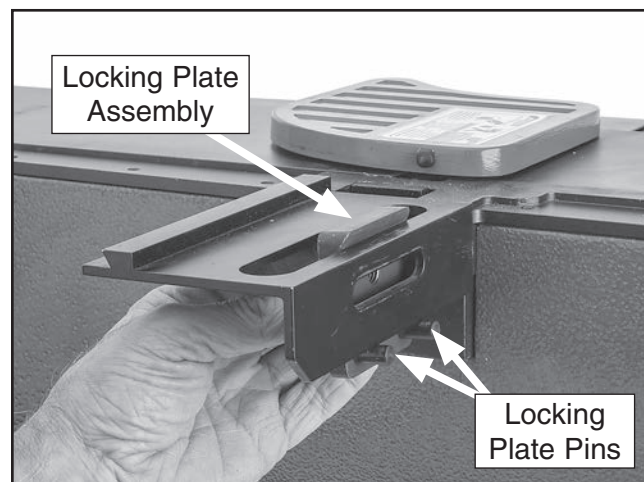
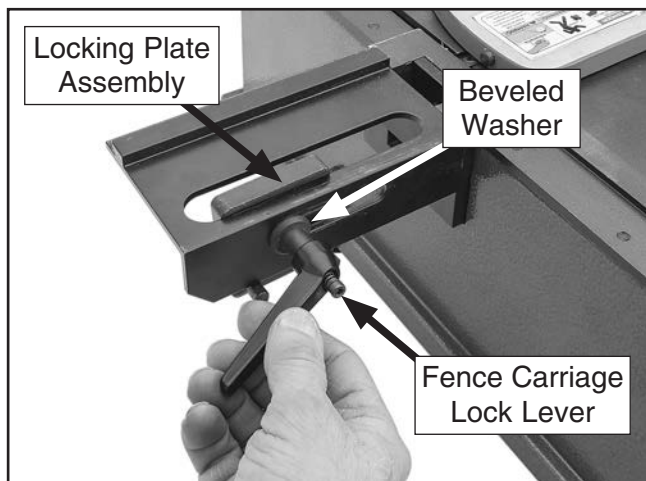

Figure 11. Inserting locking plate assembly.
Figure 12. Securing locking plate assembly with fence carriage lock lever and beveled washer.
2. Insert locking plate assembly into carriage support, so locking plate pins are against bottom edge of carriage support (see **Figure 11**). Then attach fence carriage lock lever and 10 x 3.5mm beveled washer to locking plate assembly, as shown in **Figure 12** on **Page 18**).